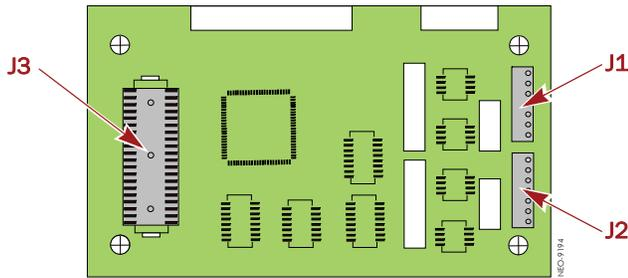

Figure 2. Remove Z-Axis PCB Connections
1. Disconnect the three cables connected to the Z-Axis PCB (Figure 2).